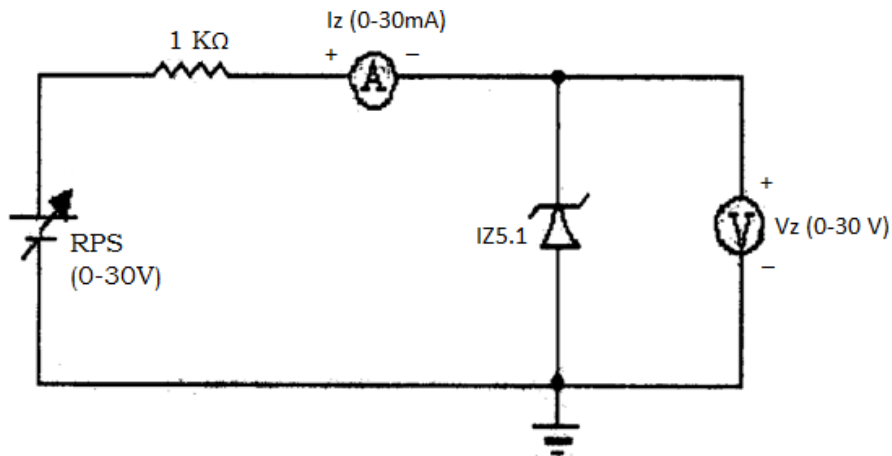

Figure 1 Circuit Diagram to study the VI-Characteristics of Zener diode
- 1) Make the connections as per the circuit diagram of fig. 1